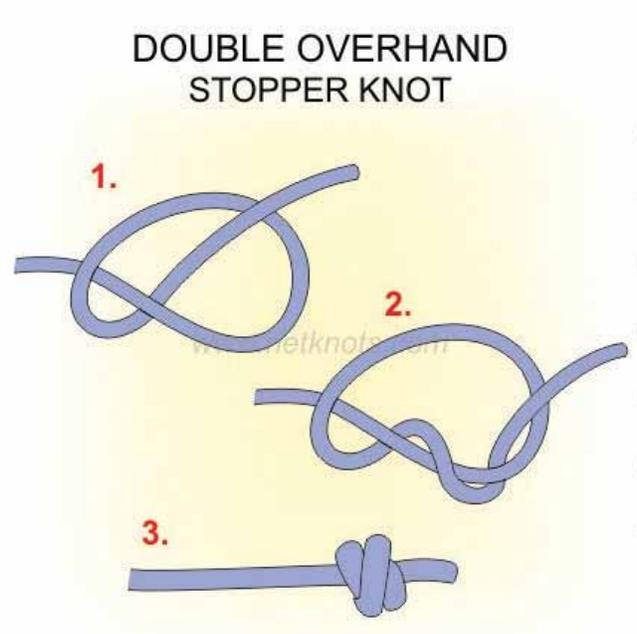

Figure 1
6. Tie a double overhand knot (Fig. 1) into one end of the spectra filament.
14. Tie a double overhand knot (**Fig.1**) into the end of the spectra filament.